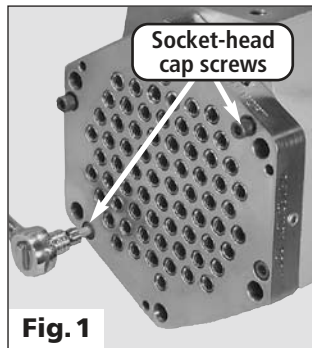

Fig. 1
3. Remove the socket-head cap screws that secure header plate to the shell flange. **Fig. 1** (Note: also see parts list diagram).